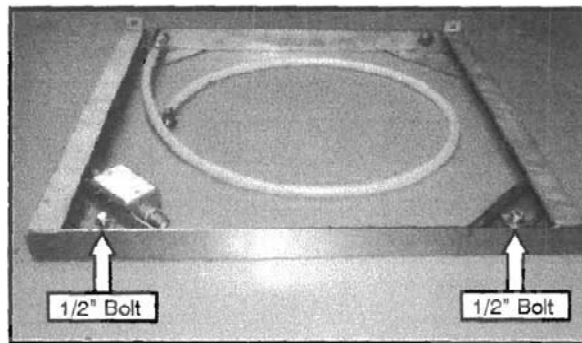

Figure 25 Installation Base 1/2" Bolt Removal
1. Remove the two 1/2" bolts from the front of the installation base. See Figure 25.
18. Slide the oven assembly back onto the installation base. The locking pins on the rear of the oven base section will fit into and lock the base to the upright tabs attached to the installation base. Install the two bolts (1/2 inch diameter) removed in STEP 1 (Figure 25), thru the oven base section and into the installation base. Insure that the drains from the upper and lower ovens are located over the floor drain.